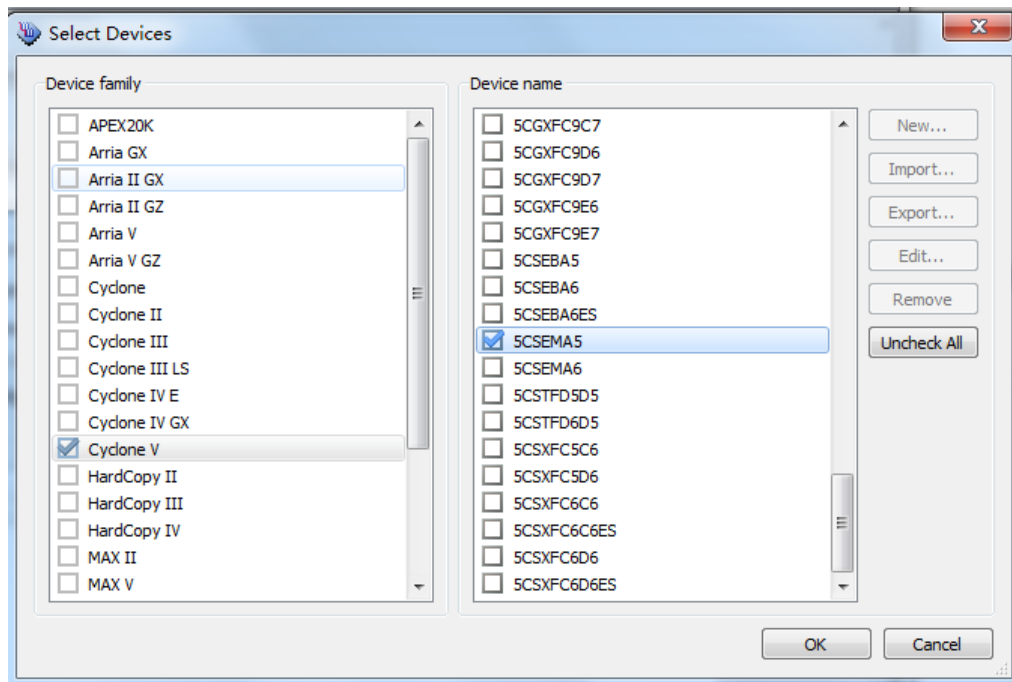

Figure 8-4 “Select Devices” page
12. Select the targeted FPGA to be programmed into the EPCQ, as shown in Figure 8-4.